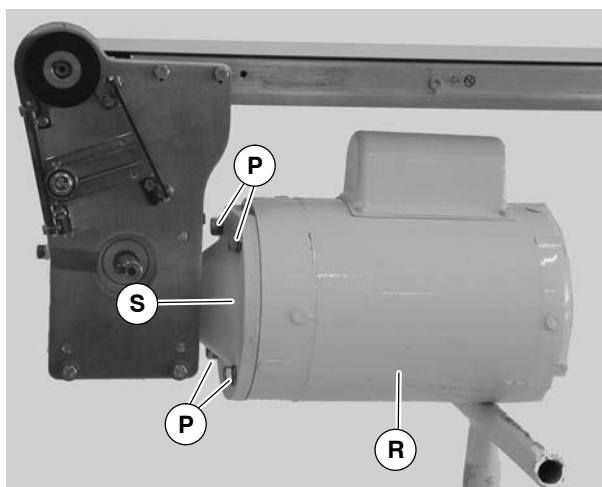

Figure 39
4. Remove four screws and washers (P of Figure 39). Remove motor (R) from gear reducer (S).